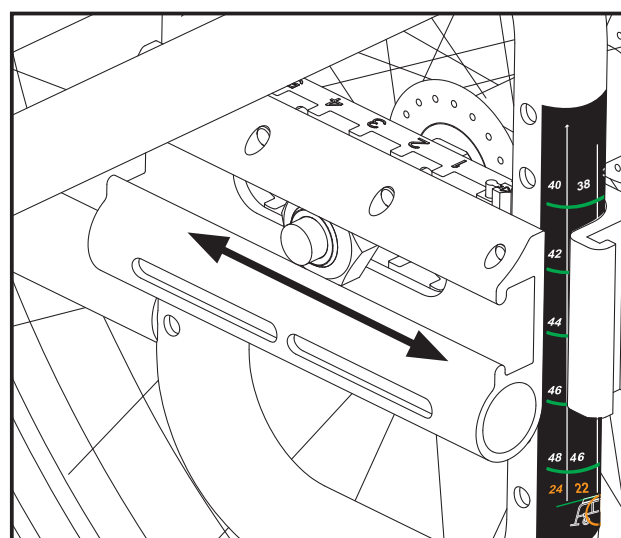

Figure 30
- Adjust the casing for the driving wheel forward or back (Figure 30)